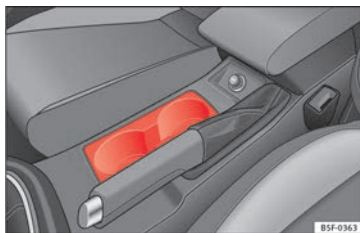

Fig. 159 Centre console: front drink holders.
- Place drinks in the holder » Fig. 159. Placement of two drinks is possible. There is also the possibility of placing larger plastic bottles in the trims of the doors.